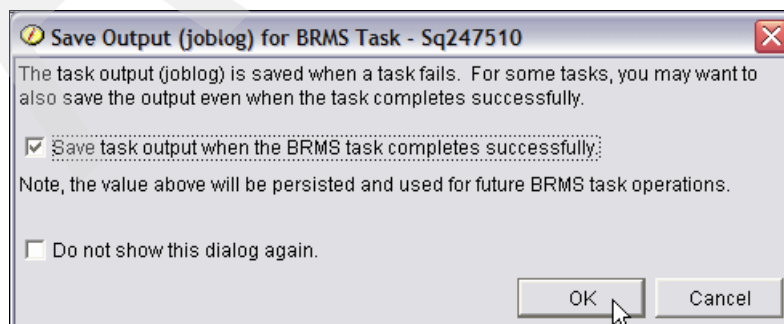

Figure 6-108 Save joblog
14. Clicking Finish opens the Save Output window, asking us if we want to save the results (job log) of the upcoming restore, as shown in Figure 6-108.